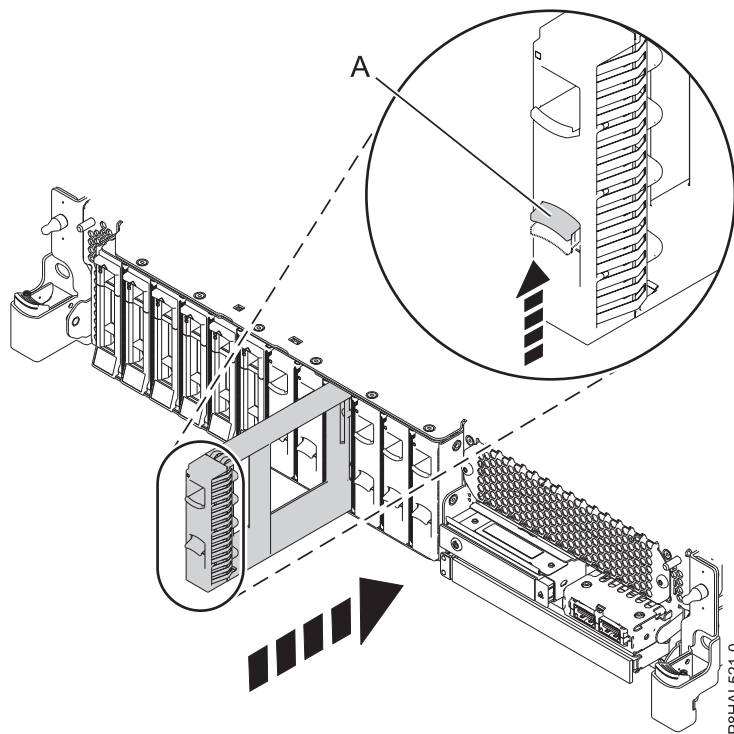

Figure 40. Installing a disk drive filler in a system
3. Align the disk drive filler with the drive slot and push the disk drive filler all the way into the system (A) until it locks, as shown in Figure 40.